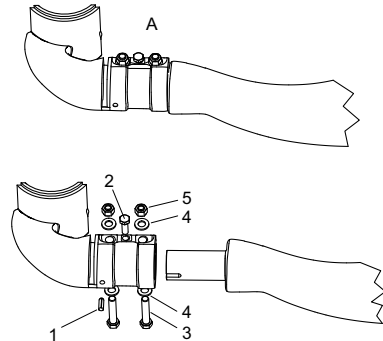

Fig. 12 SFG.xx.180/230
1. Check the premounted pins (1). Only for positioning.
2. Tighten the screw (2) to widen the opening of the clamping jaws.
4. Remove the screw (2).
5. Put Loctite 243 threadlocker on the thread of the screw (3).
7. Tighten both nuts (5) with a torque wrench to 100 Nm (A4-80).
8. Check visually that the blade actually looks like position A in fig. 12.